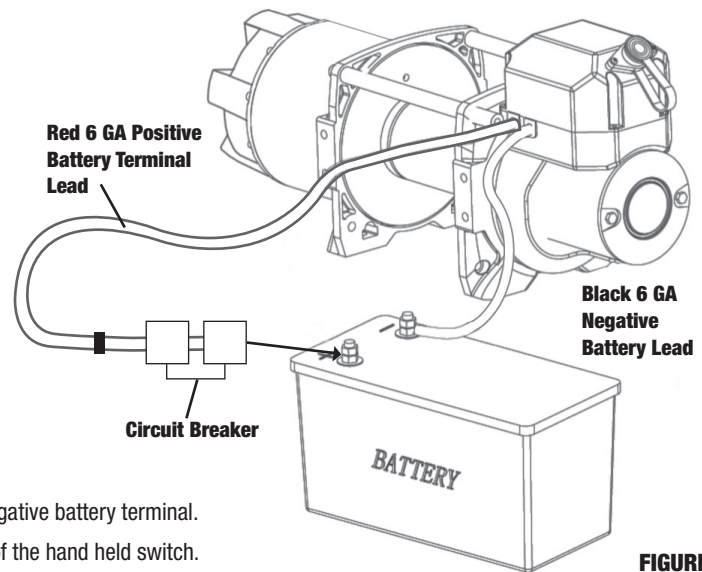

FIGURE 11
Step 1 Follow electrical connection diagram (FIGURE 11). Bolt the circuit breaker to the terminal end of the Red 6 GA battery lead that is factory connected to the sealed solenoid switching pack. Now connect the circuit breaker to the positive battery terminal.